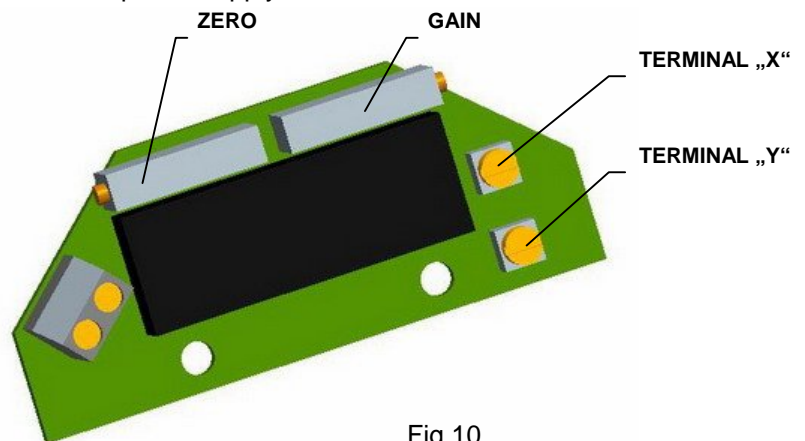

Fig.10
EPV – the 2-wire version (Fig. 10)
- Adjust the resistive transmitter according to the previous chapter. The resistance is to be metered on the terminals X-Y (Fig. 10). The used transmitter resistance is 100 Ω .
- Turn the adjusting trimmer ZERO (Fig. 10) to adjust the output current signal rate measured on the terminals 81-82 to 4mA.
- Turn the adjusting trimmer GAIN (Fig. 10) to adjust the output current signal rate measured on the terminals 81-82 to 20mA.